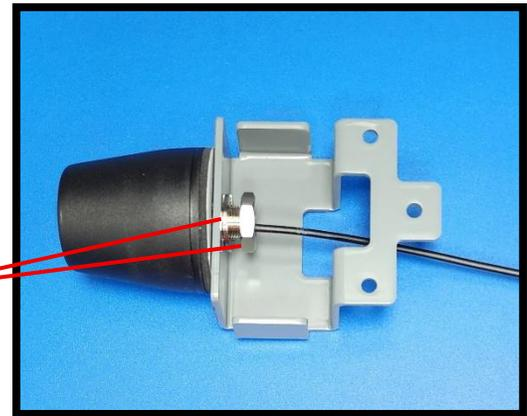

Figure 7: Secure Antenna to Bracket
7. Screw the washer and nut onto the cable and then tighten the nut by using an 18mm wrench until tight (Figure 7).